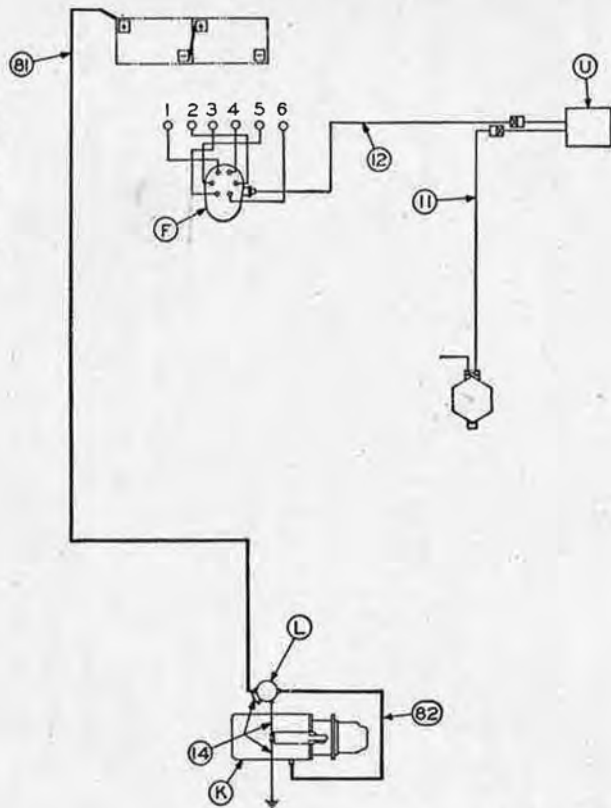

Figure 171. Starting and ignition circuit diagram.
- (1) *General.* The starting system (fig. 171) consists of the starter (fig. 130) and starter controls, which include the starter linkage (fig. 138), magnetic switch (Q, fig. 145), and starter cable (fig. 131). The starter, which is energized by operation of the starter button (CC, fig. 65), provides the
- (1) *General.* The ignition system (fig. 171) consists of the distributor and coil assembly (D, fig. 135), spark plugs, spark plug cables, and distributor primary wire (F, fig. 135). The